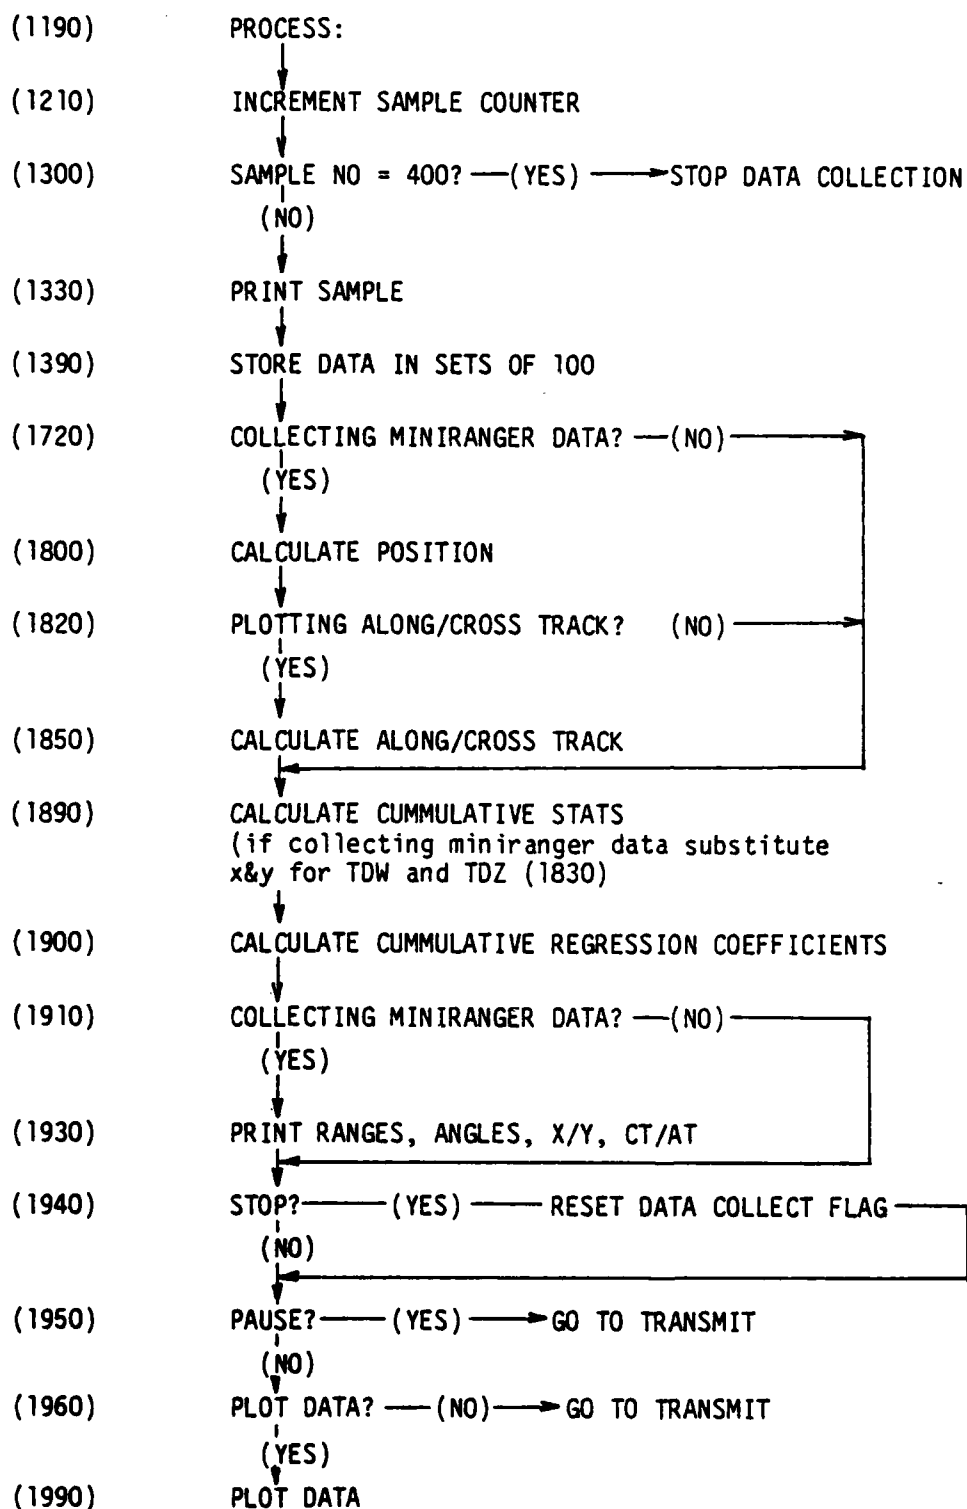

FIGURE 4-6. DATA PROCESSING
4.1.1.4 Data Processing (See figure 4-6)